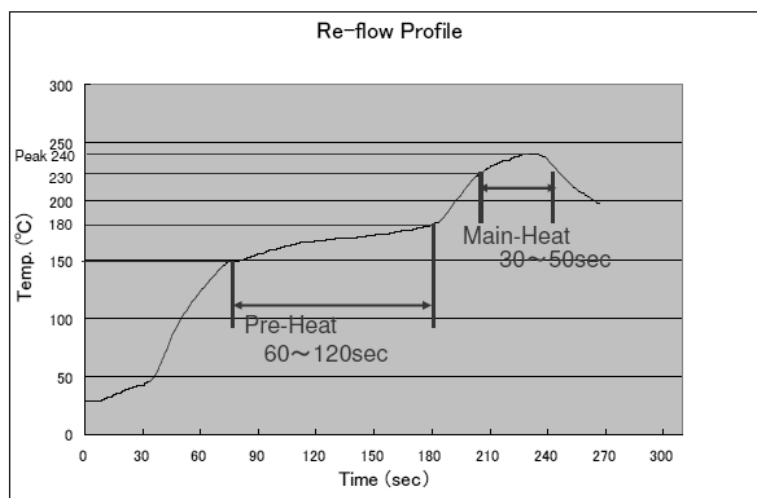

Fig.1 Example of recommended temperature profile for reflows
- 5) Caution : This product does not support a Re-flow with Pb-Sn solder. Pb-free solder should be used to Re-flow with Fig1's profile.
* The temperature profile is specified in terms of the temperature of top surface of the device. This temperature profile shows maximum guaranteed device temperature. Please set up the optimum temperature profile conditions within the Fig.1 profile.